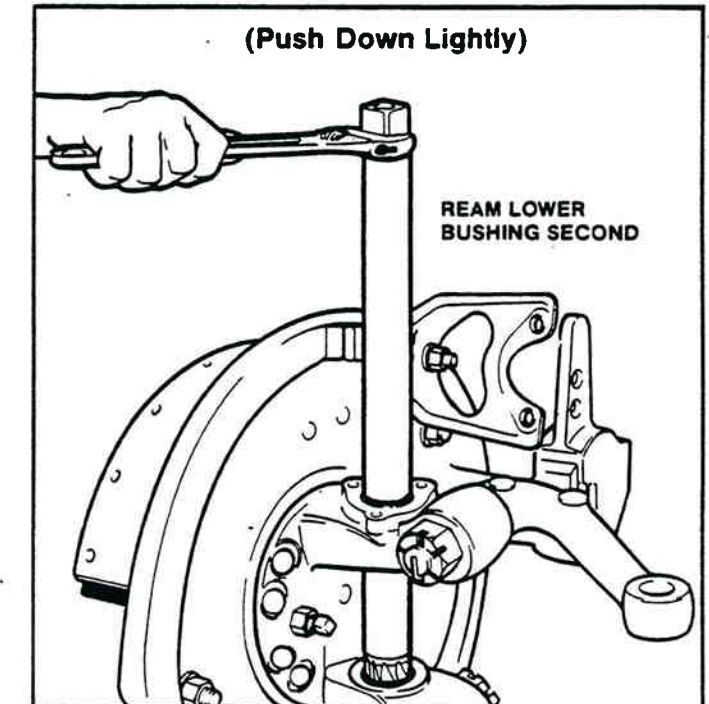

Figure 1-18. Sizing Lower Bushing.
5. After the upper bushing has been sized, gently slide the reamer through until it engages the bottom bushing. See figure 1-18. Repeat steps 3 and 4 for the bottom bushing.